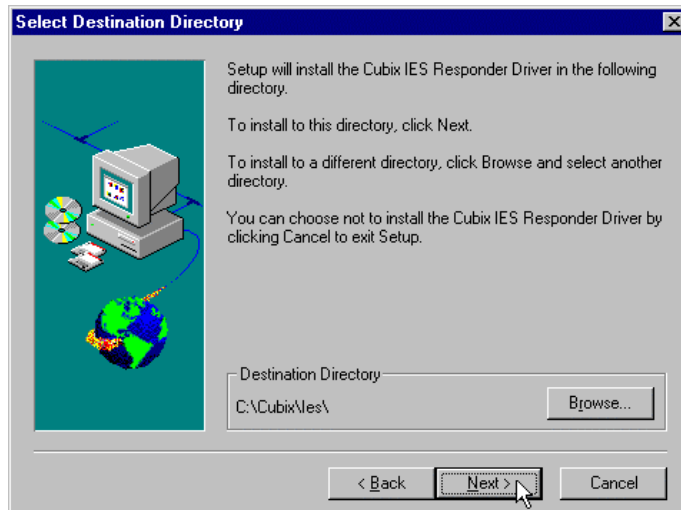

Figure 45 – Select Destination Directory dialog box
20. Select the destination directory in the SELECT DESTINATION DIRECTORY dialog box. The destination directory is the directory where the Agent will be placed. The default directory is C:\CUBIX\IES\. If another directory is desired, click on the **BROWSE...** button, which invokes a standard Windows® browse dialog box. Click **NEXT** to continue installation. See Figure 45.